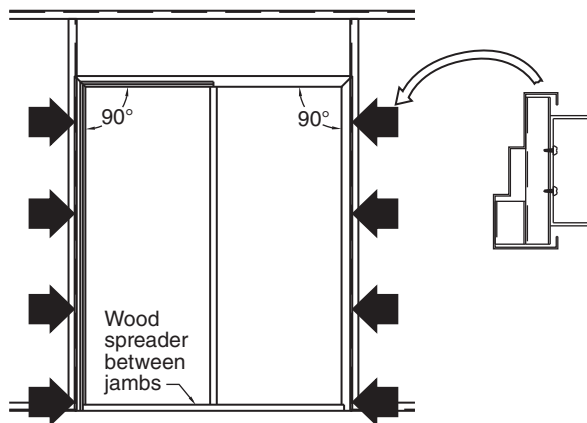

Figure 15 – Anchor jambs
8.3 Anchor jambs (see Figure 15)
8.4.1 If using screws, drill from the back side of the stud, through both the stud and anchor, then attach with (2) screws per anchor location (see figure 15). Screws shall be #6 x $\frac{3}{8}$ " minimum steel sheet metal or self-tapping type.